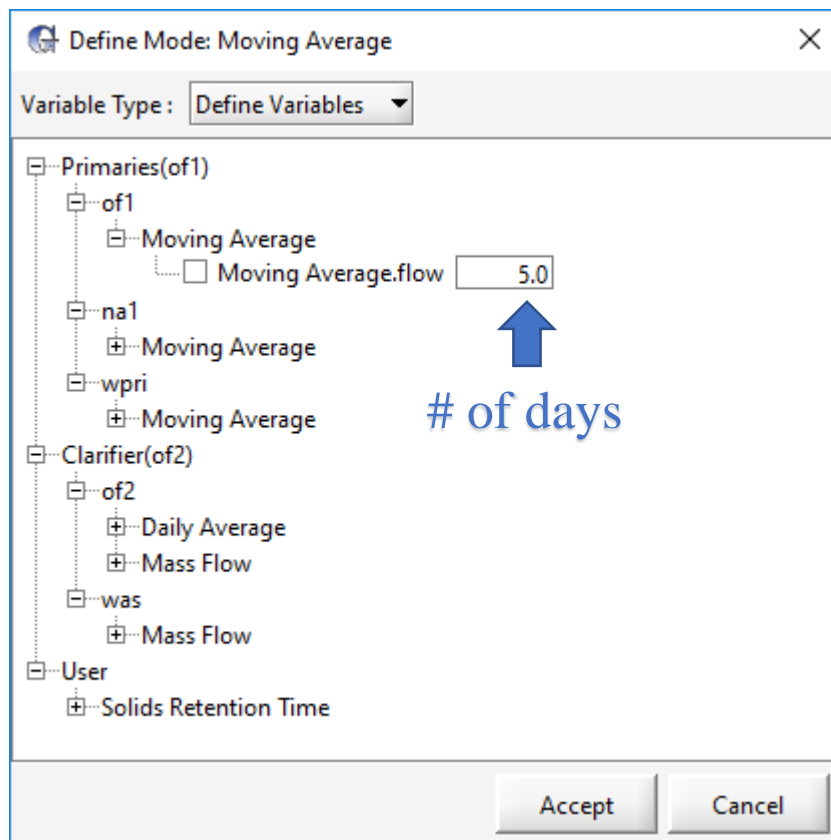

Figure 5-3 – Specifying Moving Average Time Frame (Method 1)
- (1) Open the *Define* dialog like you did in order to create the variable in the first place.
- (2) Select “*Define Variables*” from the **Variable Type** drop-down box. A list of defined variables will be displayed.
- (3) Find the variable of interest. Beside the variable will be an entry field where you can enter the number of days (**Figure 5-3**).
- (4) Click “*Accept*”